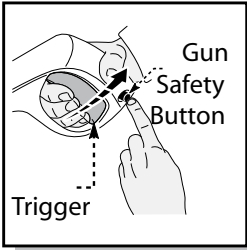

Fig. 18
- Release the safety lock button on spray gun (Fig. 18) while pointing the spray gun in a safe direction, away from yourself and others squeeze the trigger on the spray gun until there is a steady stream of water, letting the water and air out of the hose.